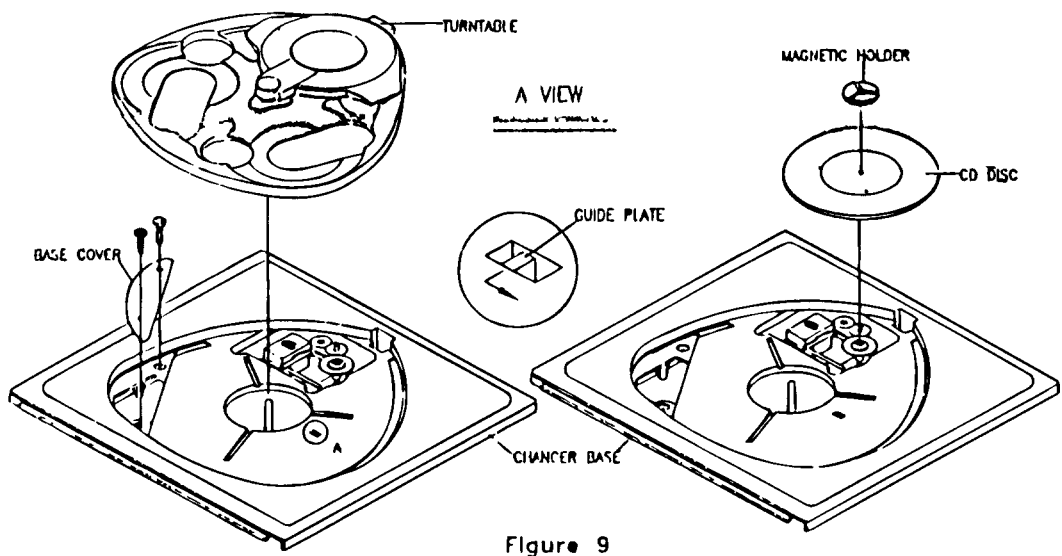

Figure 9
- a. Remove the turntable by sliding the guide plate outward. (See Fig. 9)
- b. Disassembly the base by removing 2 screws. (See Fig. 9)